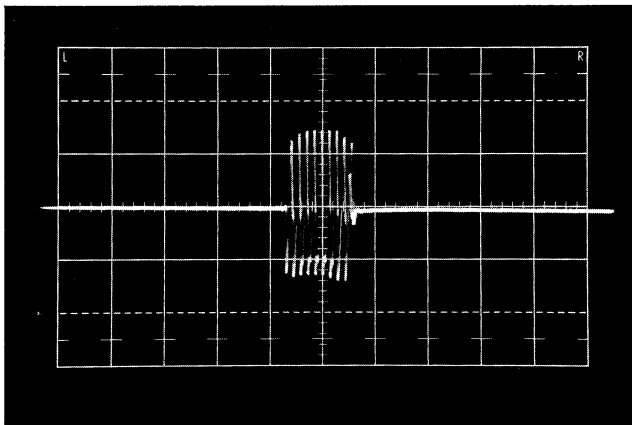

Fig. 6-16. Correct burst gate pulse waveform shape.
c. CHECK—Test oscilloscope display; should have a minimum peak to peak amplitude of 7 volts (8 volts nominal) and appear as shown in Fig. 6-16.